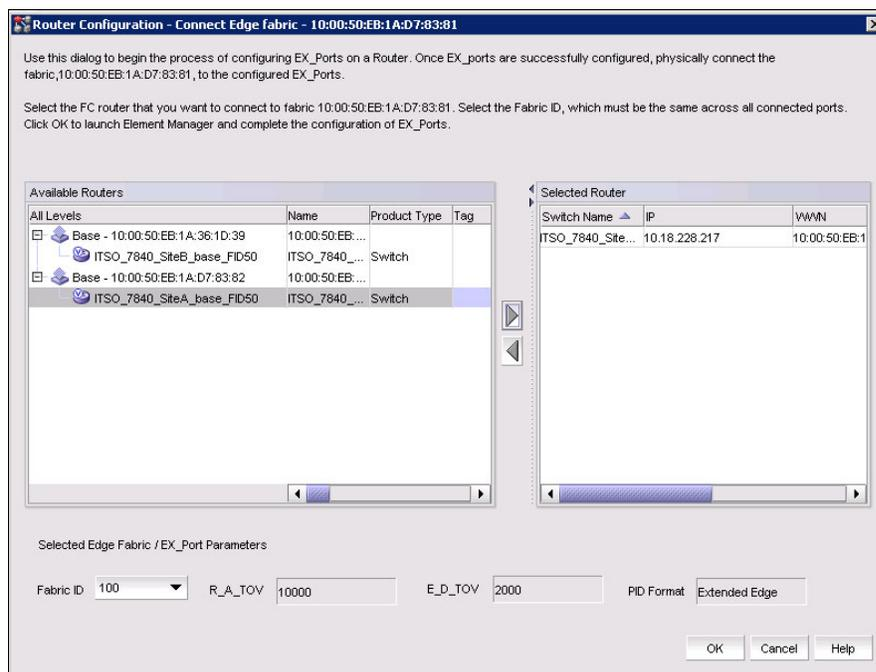

Figure 6-40 Select the logical switch for the routing configuration
The **Router Configuration** window is displayed (Figure 6-40). To configure routing, complete these steps:
- b. Select the Fabric ID (100) to be assigned to backbone switch.
- d. Click **OK** on the Router Configuration window (Figure 6-40).